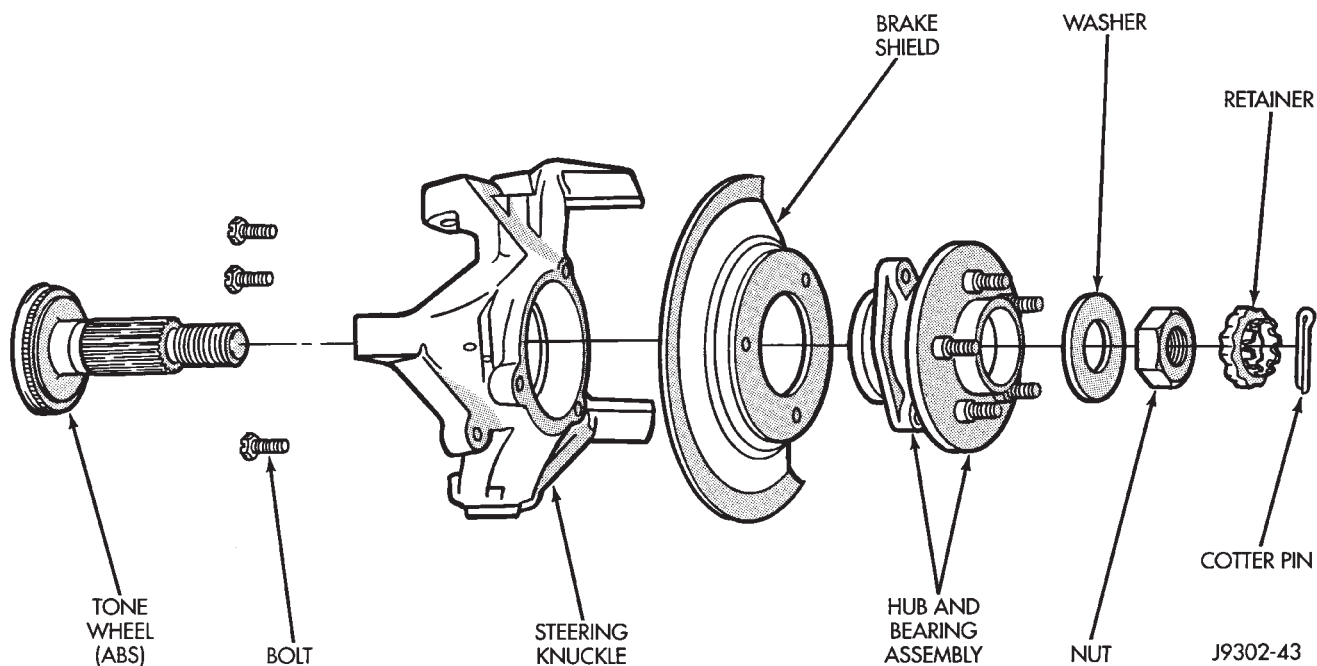

Fig. 24 Hub, Knuckle and Axle Shaft
- (1) Raise and support the vehicle.
- (2) Remove the wheel and tire assembly.
- (3) Remove the brake caliper and rotor. Refer to Group 5, Brakes, for proper procedures.
- (4) Remove ABS wheel speed sensor, if necessary. Refer to Group 5, Brakes, for proper procedures.
- (5) Remove the cotter pin, nut retainer, and axle hub nut (Fig. 24), if necessary.
(9) Remove the brake rotor shield from the hub bearing or knuckle (Fig. 24).
(1) Thoroughly clean the axle shaft (Fig. 24) and apply a thin film of Mopar® Wheel Bearing Grease, or equivalent, to the shaft splines, seal contact surface, and hub bore.
(2) Install the brake rotor shield to the knuckle.
(3) Install the hub bearing and axle shaft assembly, or axle shaft, into the housing and differential side gears. Avoid damaging the axle shaft oil seals in the axle housing.
(4) Install the hub bearing, if necessary.
(5) Install the hub to knuckle bolts and tighten to 102 N·m (75 ft. lbs.) torque.
(6) Install the hub washer and nut, if necessary. Tighten the hub nut to 237 N·m (175 ft. lbs.) torque.
Install the nut retainer and a new cotter pin (Fig. 24).